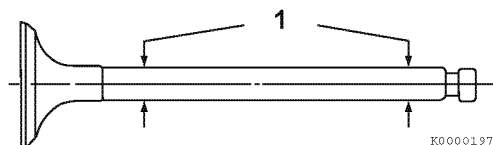

Figure 6-19
Use a micrometer to measure the valve stem diameter. Measure the valve stem near the combustion end and near the opposite end (Figure 6-19, (1)). See Intake/Exhaust Valve and Guide on page 6-4 for the service limit.